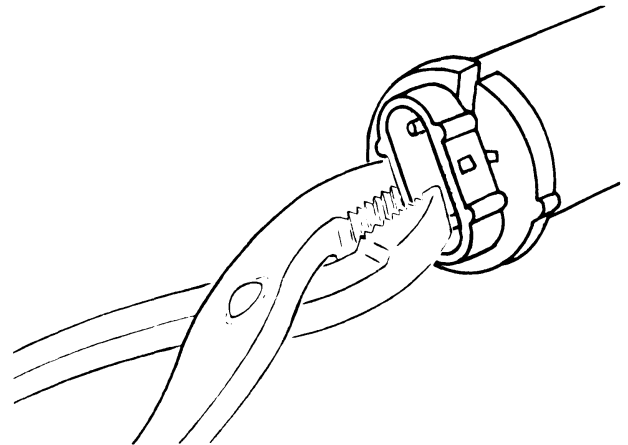

FIG. 3 Disassembling Motor, Seal and Impeller Assembly
3. Using pliers to grip one wall around the electrical terminals, (Fig. 3), pull out the motor, seal and impeller assembly. If the impeller and seal come off when the motor is pulled, they can be reassembled. Make certain the reservoir pump chamber is free of foreign material prior to installing the old assembly in the new reservoir.